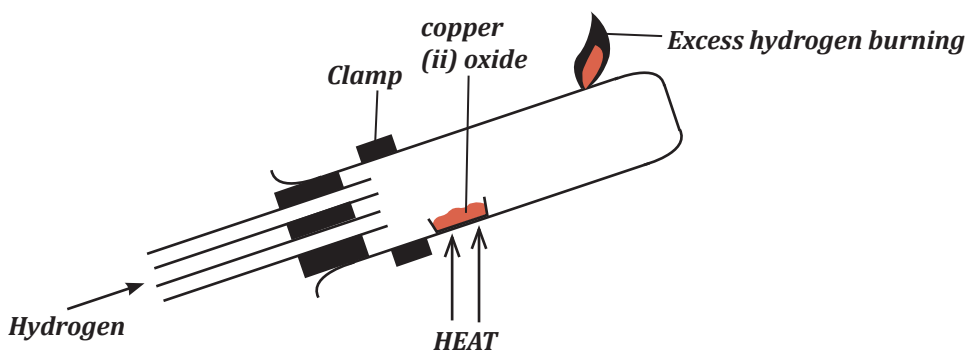

Fig9.4 Reduction of copper (ii) oxide with hydrogen
- Set up the apparatus as in figure 9.4 in which the test tube has a hole in the end.